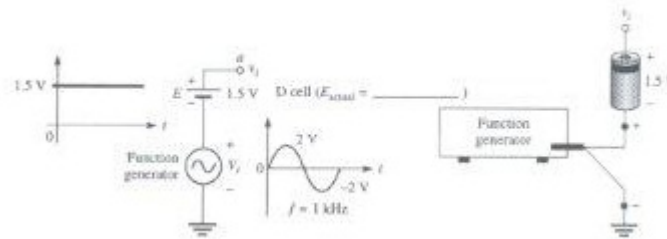

Figure 4:
- g. Construct the input of v_i of Figure 4 by placing a DC source in series with the output of the function generator. Be sure the ground of the oscilloscope is connected directly to the ground of the function generator. Measure and record the actual battery voltage using the DC mode of the digital multimeter.